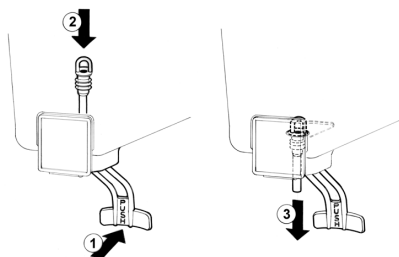

figure 5
**2 Pinch tube faucet:** push the dispensing handle (1) and insert the pinch tube into its vertical seat in the bowl bottom(2). Lightly pull the pinch tube end downwards til itl is well arranged (3) (see figure 5).